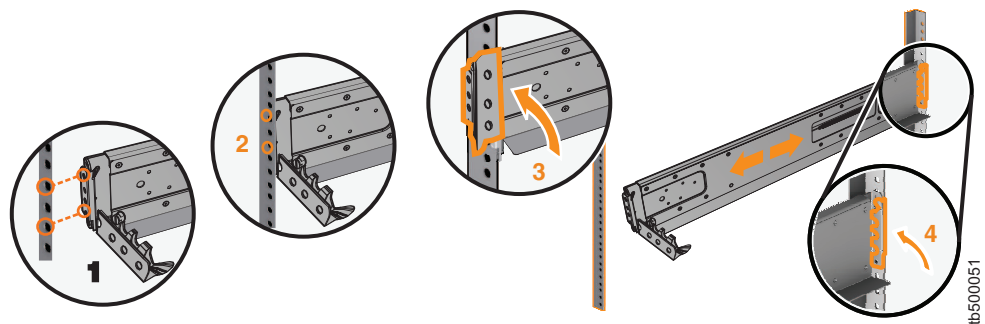

Figure 15. Closing the hinge brackets
8. Close the rear hinge bracket to secure the rail to the rack cabinet flange. (See Figure 15.)
10. Close the front hinge bracket to secure the rail to the rack cabinet flange. Figure 15 shows an example.